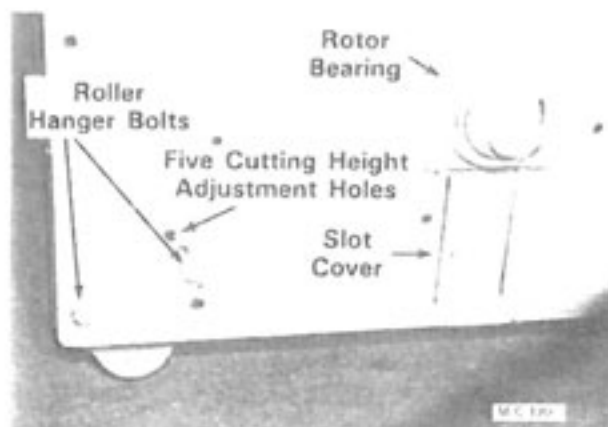

Figure 13
1. There are a series of five holes at each end of the gauge roller, see figure 13. Loosen the bottom capscrew in each gauge roller hanger.